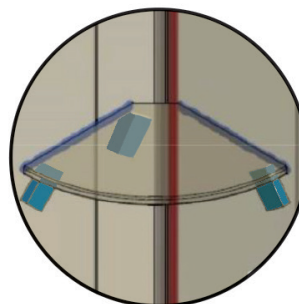

FIG 21.
- Clean up adhesive with spatula. Remove masking take (FIG 21).